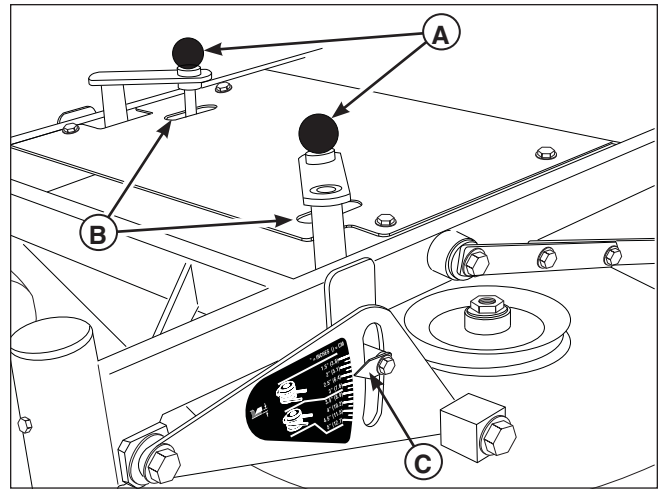

Figure 4. Cutting Height Adjustment
1. Pull the cutting height adjustment handle (**A, Figure 4**) up and out of the handle lock position (**B**) and crank the handle **clockwise** to raise the deck to the desired cutting height. Crank the handle **counter-clockwise** to lower the deck to the desired cutting height. After the desired cutting heights are achieved position the cutting height adjustment handles into the handle lock position.